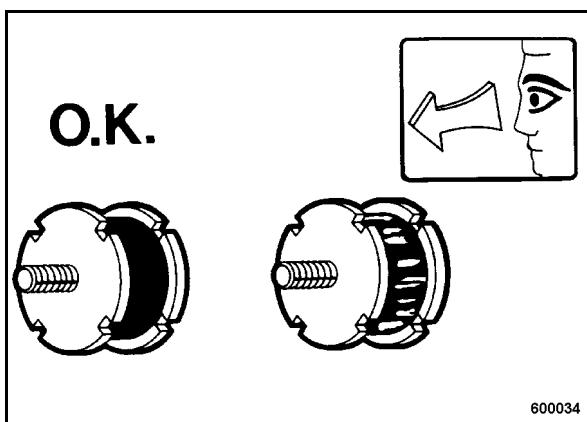

Fig. 118
- Check all rubber buffers (Fig. 118) for tight fit, cracks and damage and replace immediately if damaged.